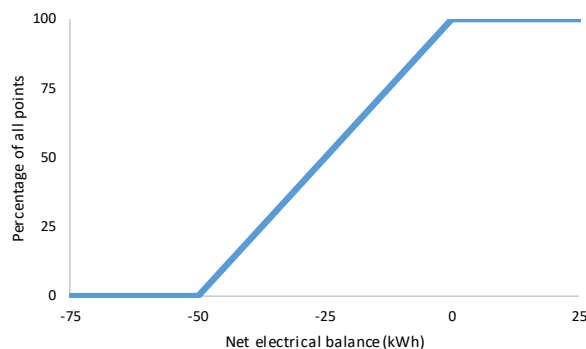

Figure 4. Net electrical balance sub-contest points' distribution
- b) Reduced points are earned for a net electrical energy balance between -50 kWh and 0 kWh. Reduced points are scaled linearly, shown in Fig. 4.